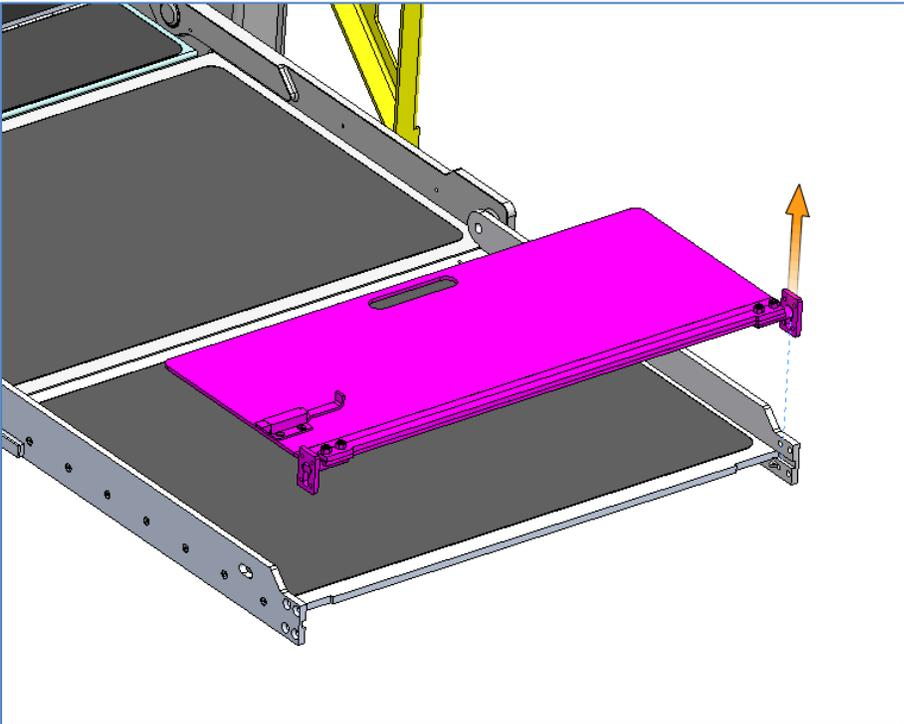
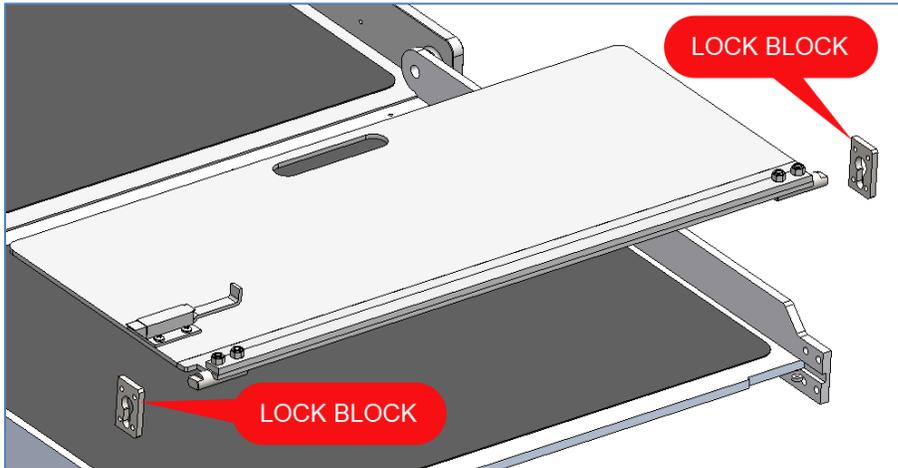

Figure 5
Figure 6
- 5) Remove the outer barrier assembly and the LOCK BLOCKS (See Figure 5) then remove the LOCK BLOCK and keep these two parts. See Figure 6.